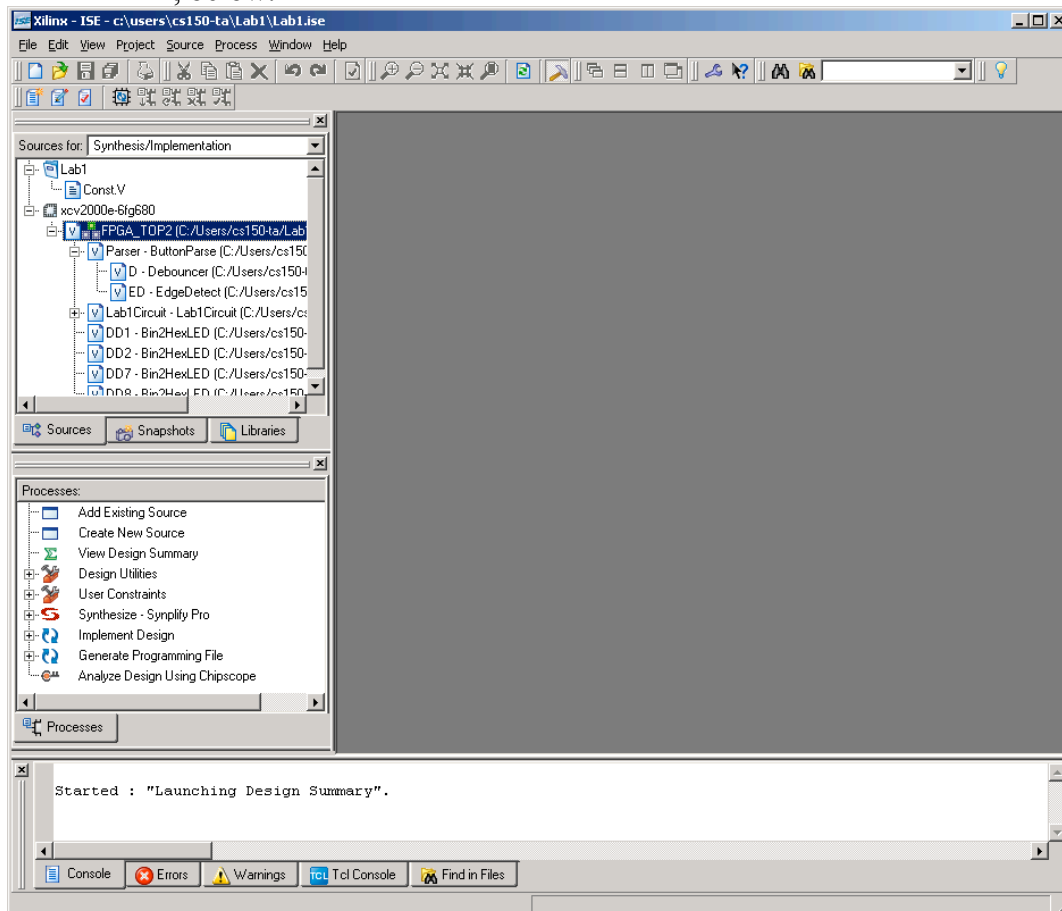

Figure 2: A Complete Project
- 9. You should now have a Project Navigator project, which looks like Figure 2, below.
The Project Navigator Window as shown in Figure 2, above, will allow you to manage your files and invoke the various CAD tools from a central location. Do not depend on Project Navigator for everything; complex testbenches may require manual creation of ModelSim projects, just as you should manage your files from Windows Explorer.